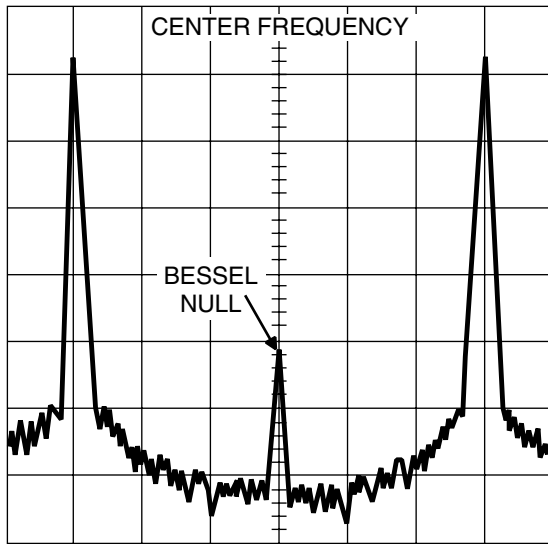

Figure 4-10. Typical Spectrum Analyzer Display of Bessel Null on FM Waveform
- e. While observing the first Bessel null (Figure 4-10) on the Spectrum Analyzer display, adjust the value of the DAC's setting to reduce the carrier level as low as possible.
- d. While observing the first Bessel null (Figure 4-10, page 4-38) on the Spectrum Analyzer display, adjust the value of the DAC's setting to reduce the carrier level as low as possible.
- f. While observing the first Bessel null (Figure 4-10, page 4-38) on the Spectrum Analyzer display, adjust the value of the DAC's setting to reduce the carrier level as low as possible.